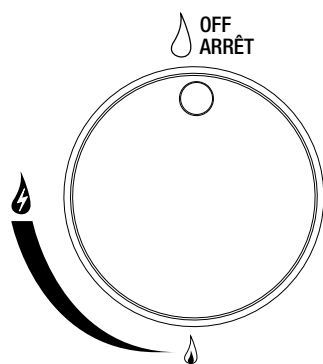

Figure 3
- Make sure control knobs are in the "OFF" position (Figure 3).
- All control knobs must be in the "OFF" position (Figure 3).
3. Control knob must be in the “OFF” position (Figure 3).